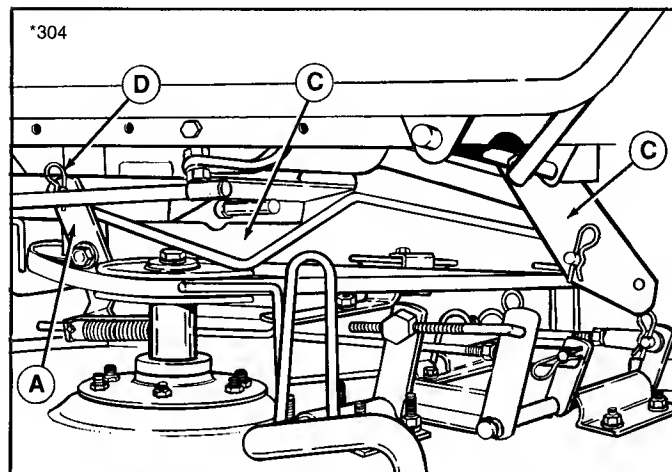

Figure 7. Installing PTO Rod
7. Insert one end of the PTO rod (B, figure 7) in the mower PTO arm (A) and the other end in the tractor PTO arm (C) in hole marked "MOW". The rod must be inserted into the holes from the right-hand side as shown. Refer to figure 7 to make sure the rod is correctly positioned. Install the spring clips (D).